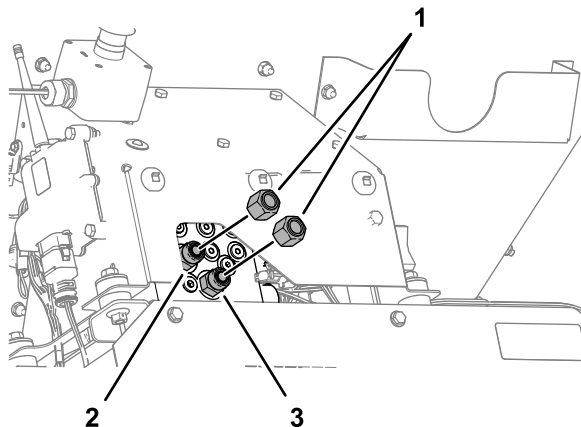

Figure 20
1. Remove the caps from the from the union fittings at port-T and port-P of the hydraulic manifold (Figure 20).